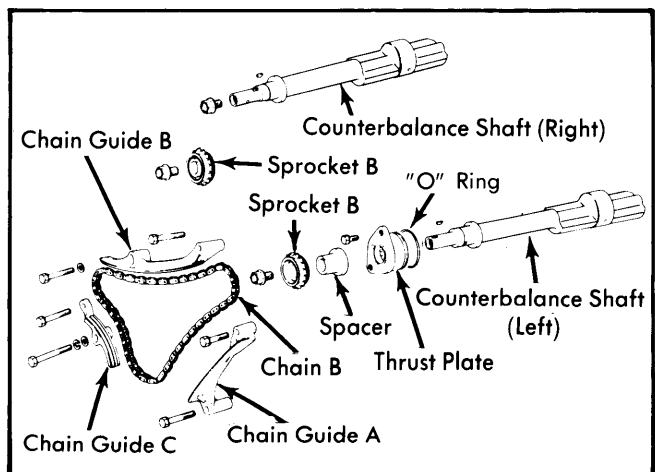

Fig. 11 Exploded View of Counterbalance Shafts and Drive Chain (2000 & 2600 cc)
Removal — Remove crankshaft pulley and timing chain case. Remove chain guides A, B and C, sprocket B locking bolts and crankshaft sprocket B. See Fig. 11. Remove both countershaft sprockets (B) and drive chain.